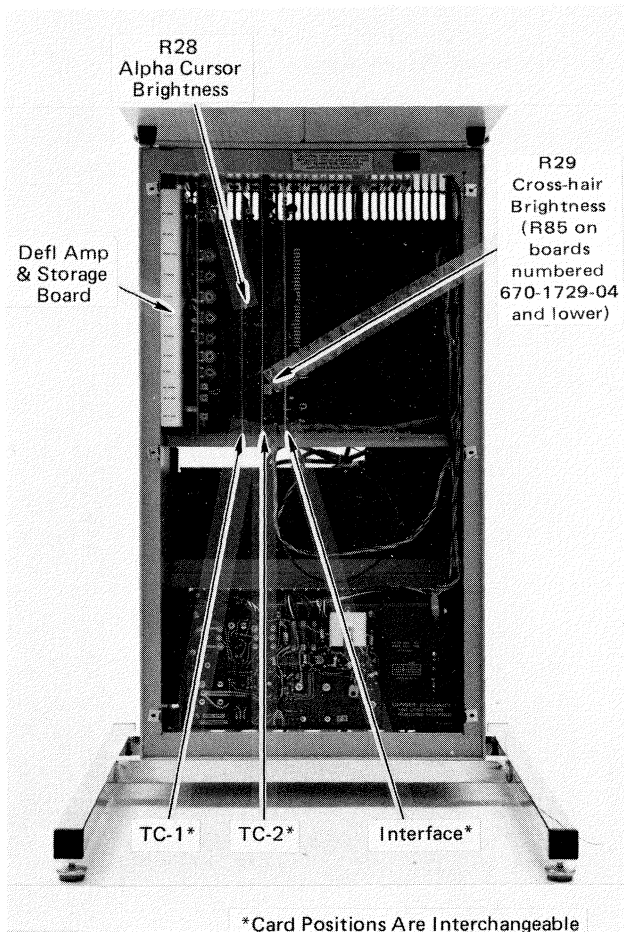

Fig. 4-7. Pedestal Circuit Card Information.
d. At TC-1 in the top of the pedestal unit, turn R28 (Cursor Brightness) fully clockwise. (See Fig. 4-7 for location.)
a. Enter CTRL SHIFT K and CTRL Z and place the keyboard thumbwheels near midrange. A crosshair cursor should appear on the display. If it does not, adjust the crosshair Brightness, R29, on TC-2 (R85 on boards numbered 670-1729-04 and lower) as necessary to obtain it. The R29 (R85) location is shown in Fig. 4-7.
c. Adjust Cursor Brightness (R28 on edge of TC-1) to obtain the desired intensity. See Fig. 4-7 for adjustment location.
d. If necessary, adjust R29 (R85) on TC-2 (see Fig. 4-7 for location of adjustment) so that the cursor can be seen but does not store.